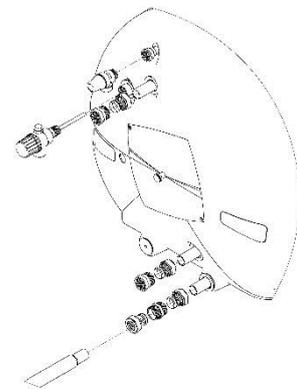
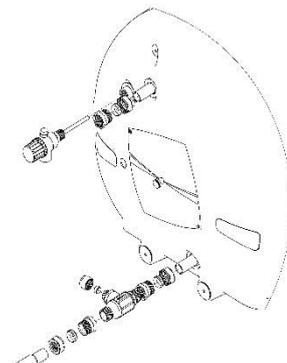

Figure 6.11 Tank End - Closed Circuit
Figure 6.12 Tank End - Open Circuit
29. For closed circuit models, insert the 100 kPa closed circuit pressure relief valve into the  $\frac{1}{2}$ " tank socket (Figure 6.11). Note this valve is not used on open circuit models.
30. For a closed circuit model, slide an Rp  $\frac{3}{4}$ " compression union onto the cold inlet of the tank (Figure 6.11). Tighten the assembly taking care not to twist the copper tube on the tank. For an open circuit model, the Thermal Arrestor Valve (TAV) will make up the inlet combination. Attach an Rp  $\frac{3}{4}$ " compression union to both ends of the TAV and then slide onto the cold inlet of the tank. Make sure the arrow on the TAV is pointing towards the tank. Tighten the assembly taking care not to twist the flexible pipe.
31. To complete the cold pipe connection, slide the appropriate fitting onto the remaining connection pipe. For an open circuit model, this will be the compression union on the TAV (Figure 6.12). For a closed circuit, this will be a 22mm compression union onto the closed circuit connection (Figure 6.11). Tighten the assembly taking care not to twist the copper tube on the tank.